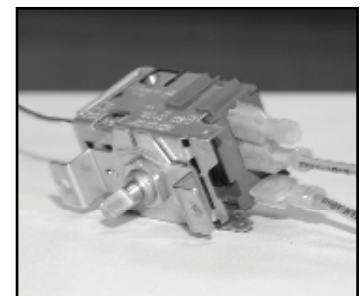

Figure 8
- C. Connect other black wire from old control to the single vertical terminal on the new temperature control. (See Figure 8).